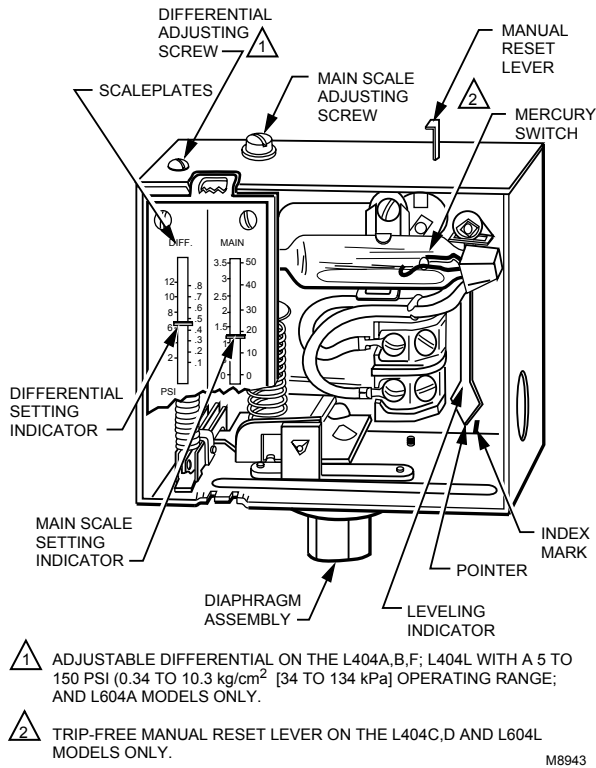

Fig. 11. Setting a Pressuretrol® Controller.
A controller with a mercury switch must be accurately leveled for proper operation. It is level when the leveling indicator (see Fig. 11) hangs freely with its pointer directly over the index mark inside the back of the case. Level the controller by carefully bending the steam trap (siphon loop).
Adjust the main scale set point for the desired operating pressure by turning the main scale adjusting screw (Fig. 11) on the top of the case until the main scale setting indicator is at the desired value. On an L404A,B,F with a 5 to 150 psi (.3 to 10.3 kg/cm² [34 to 1034 kPa]) operating range, or an L604A, adjust the differential setting by turning the differential adjusting screw (Fig. 11) until the differential setting indicator is at the desired value. L404C,D and L604L are manual reset models: see the next paragraph. The scaleplates are marked psi and kg/cm².
The L404C breaks, the L404D makes, and the L604L makes R-W and breaks R-B when the pressure rises to the main scale setpoint. They will not automatically return to their former positions. To reset one of these controllers, wait until the pressure falls to the set point minus the differential (Fig. 10). Then depress the manual reset lever (Fig. 11) and release it. The controller will not be reset until you release the manual reset lever. This prevents the controller from becoming an automatic-reset device if the reset lever is stuck, held in, or tied down.
2. Turn the main scale adjusting screw (Fig. 11) until the main scale setting indicator on the controller corresponds to the boiler pressure gauge reading.
7. If the controller is operating properly, turn the main scale adjusting screw (Fig. 11) until the main scale setting indicator is at the desired set point.